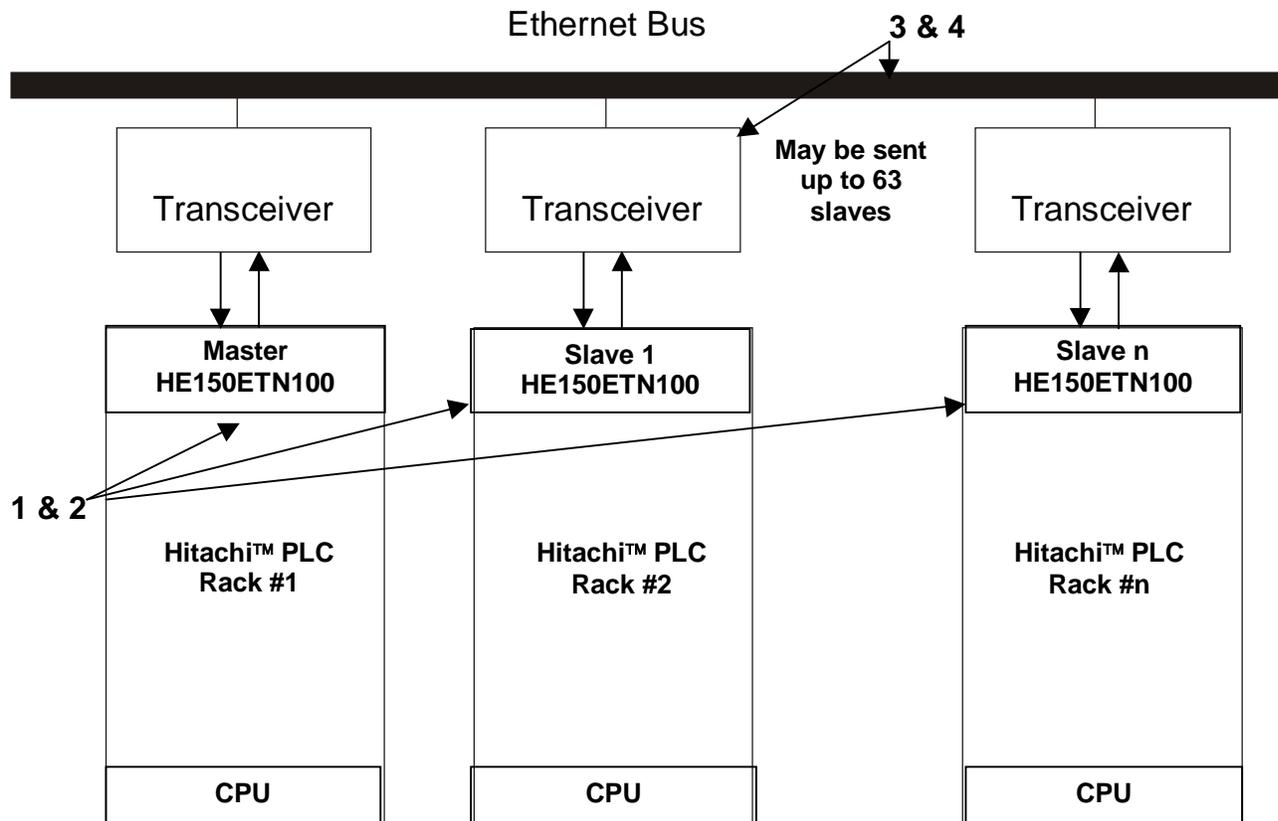

Figure 1.1 – Network Overview
1.2.1 The Horner APG's Hitachi™ Ethernet Link Modules for the Hitachi™ H-Series (HE150ETN100) provide the necessary links to make the same data (or “map”) available to CPUs (and other modules) in up to sixty-four H-Series PLCs. The CPUs (and other modules) respond accordingly depending upon how the user has configured them. The following explanation describes how various equipment functions together using an Ethernet network. (**See Figure 1.1 and Table 1.1.**)